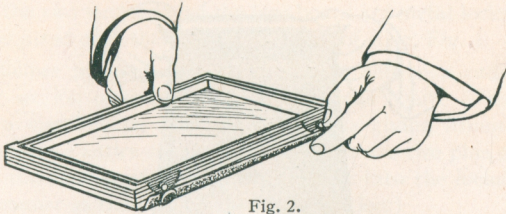

Fig. 2.
1. Take paper holder (the large frame with hinged back), and place flat on the table before you, grooved side uppermost, and unclasp buttons on flap, as shown in Fig. 2.